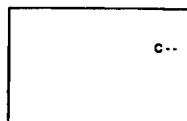

Fig. 10
- 1 Press C on the Remote Commander for regular channels, or twice to get cable channels. The indication "C" ("S" for cable channels) appears on the screen. (See Fig. 10.)